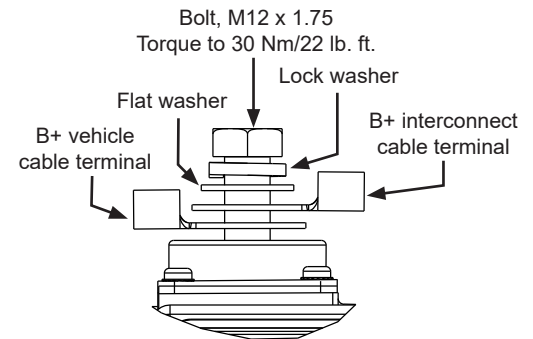

Figure 2: B+ Terminal Hardware Stacking Order
5. Connect vehicle B+ cables to both alternator B+ terminals and install terminal hardware in stacking order shown in Figure 2. Torque hardware to 30 Nm/22 lb. ft.